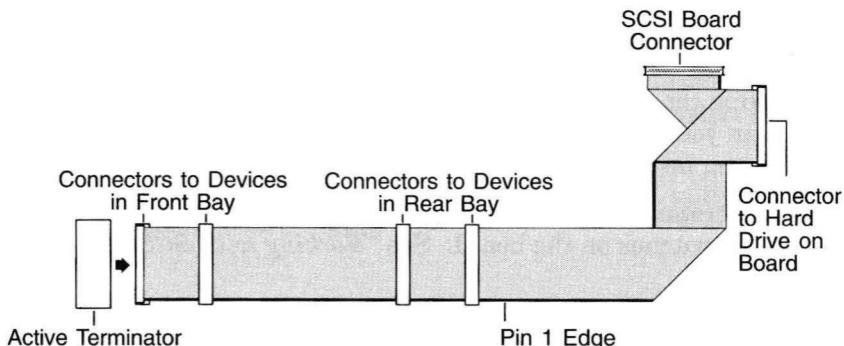

Figure 4. 50-pin SCSI Ribbon Cable
4. Look at the 50-pin SCSI ribbon cable, illustrated in Figure 4. Locate the end of the ribbon cable that you will connect to the board. Note that the colored edge of the cable indicates pin 1.